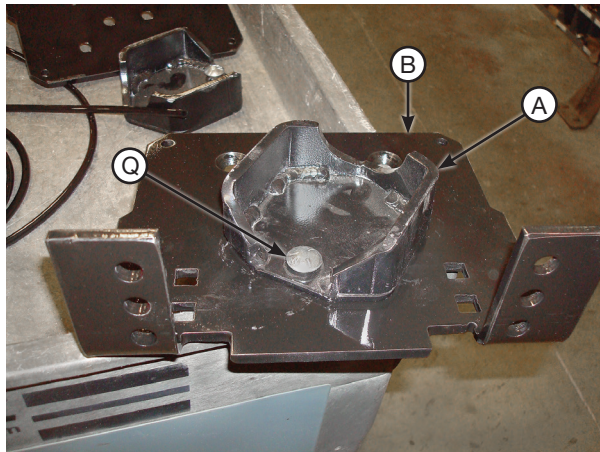

fig. 6
2. Install the swivel elbow fitting (GG) into the top of the air spring finger-tight plus 1 1/2 turns.
3. Insert a 5/16"-18 x 3/4" carriage bolt (Q) through the square hole in the lower bracket cup (A). Make sure to insert the carriage bolt on the flanged side of the bracket. Set the assembly onto the lower bracket main plate (B) making sure the lower bracket cup is on the flanged side of the bracket (Fig. 6).